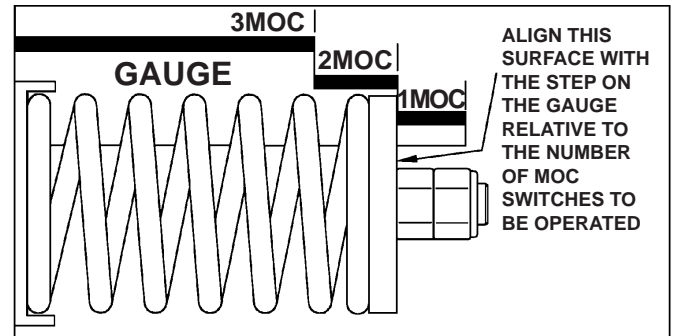
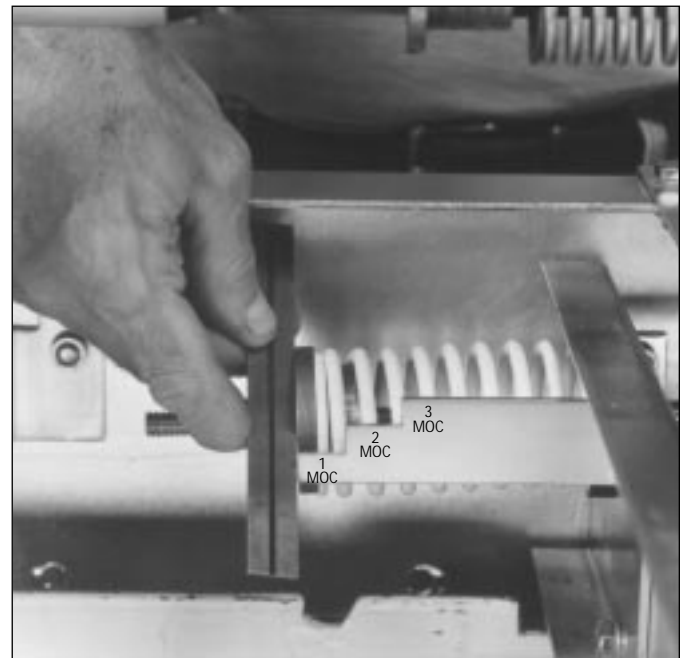

Figure 4-3 Drive Spring Adjustment Graphic
Figure 4-4 Checking Drive Spring for Proper Adjustment for One Installed MOC Switch
Step 4: Anytime an adjustment is made, use a straight-edge to make sure that the flat surface end of the spring is properly aligned with the correct step on the gauge for the number of installed MOC switches. Figure 4-4 shows the alignment being checked for one installed MOC switch. Always refer back to the graphic in Figure 4-3 to ensure adjustment of the spring to the proper step on the gauge for the number of installed MOC switches.